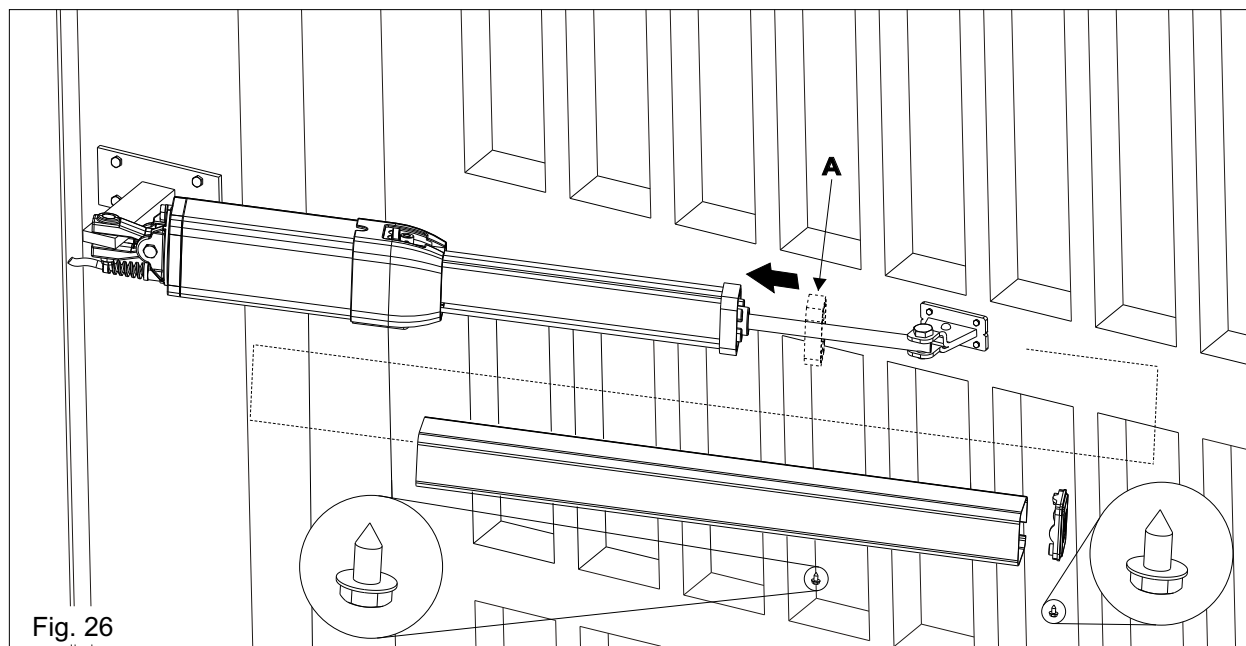

Fig. 26
Make sure to have inserted the antivibration plastic frame (A) before inserting the rod cover extrusion (Fig. 26).